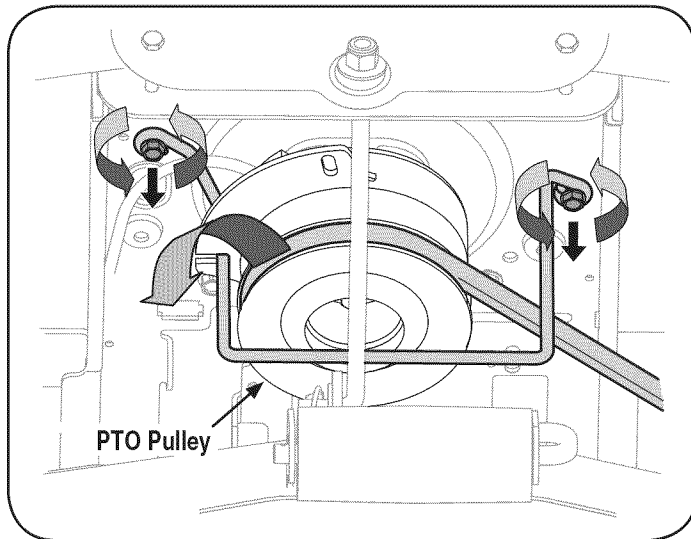
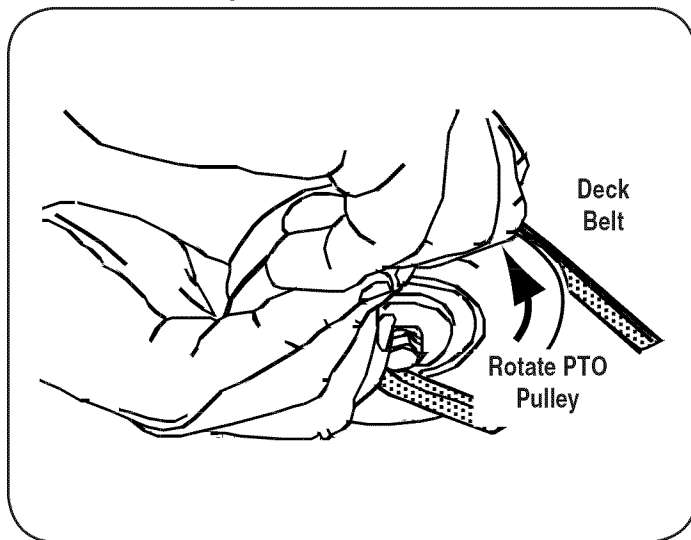

Figure 10
Figure 17
3. Locate the PTO clutch under the front of your tractor. See Figure 10.
4. Remove the belt guard and belt from the PTO pulley as follows. Refer to Figure 10:
11. Pull the right side of the belt and place the narrow V side of the belt into the PTO pulley. See Figure 10 in CUTTING DECK REMOVAL and Figure 17 below.
12. While holding the deck belt and PTO pulley together, rotate the pulley to the left (See Figure 17). Continue holding and rotating the pulley and belt until the belt is fully rolled into the PTO pulley.
NOTE: Insert the belt guard into the belt guard slot of the PTO pulley. See Figure 10.